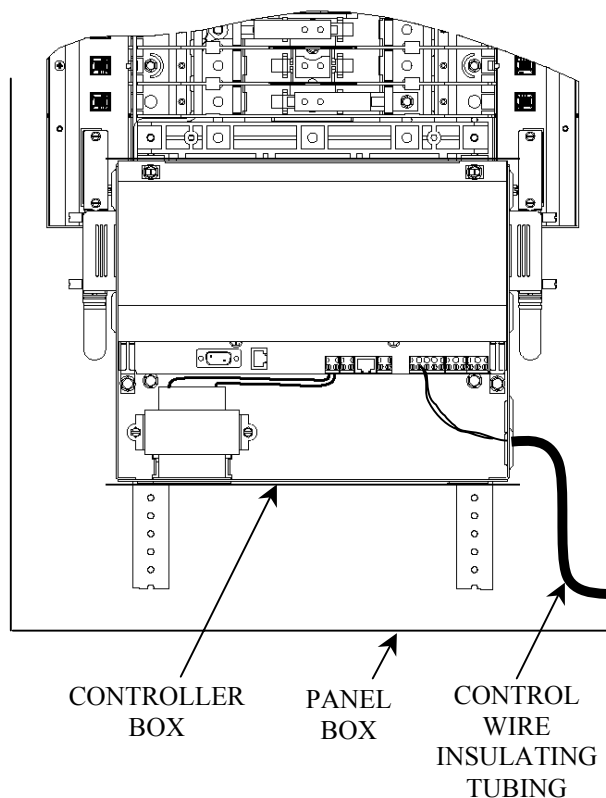

FIG 1
1. Size the length of routing path of control wiring through the panel box to the controller box in fig 1.
4. Use wire nuts (2) for clamping and strain relieving control wire passing through the holes in the sheet metal. Hole size provided in the control box is 7/8 inch dia. Sized for 1/2 inch nuts. Wire nuts not provided.